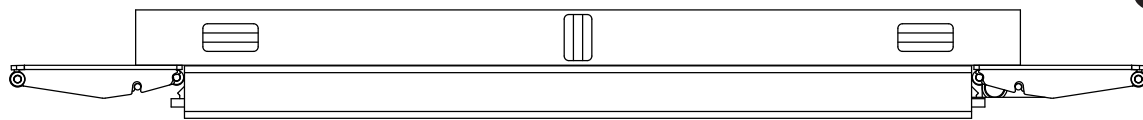

Fig. 9c
5. Verify platforms are level, Fig. 9c.